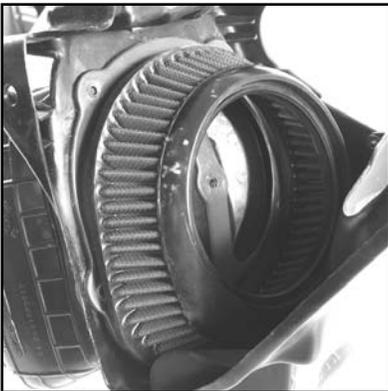

Fig. 1
3. Install the K&N Air Filter base into the air box. (Fig. 1)